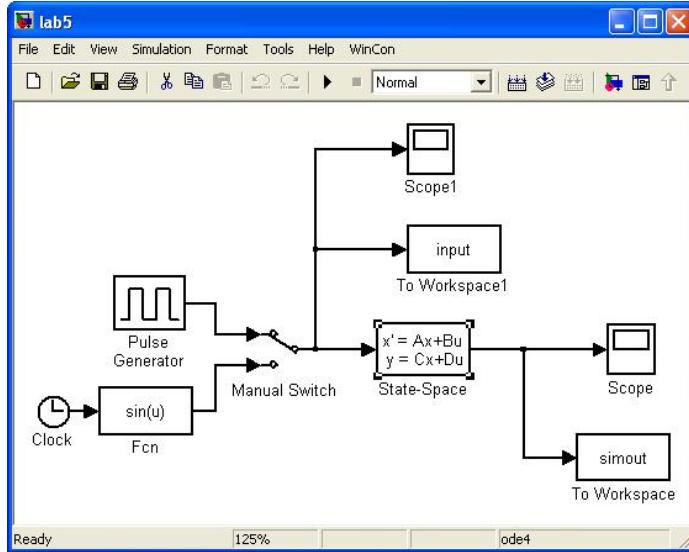

Figure 4.1: Simulink model for Lab 4
4. Prepare the Simulink model shown in Figure 4.1. You could use the model in Lab 3 if you saved it. They are the same.